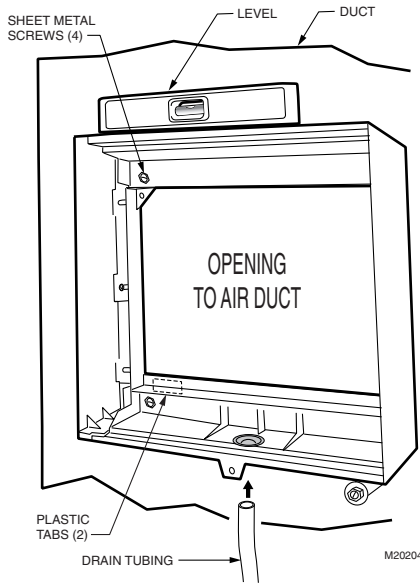

Fig. 4. Installing humidifier on duct.
2. Make sure the humidifier housing is level, then position it in the opening so the plastic tabs are in place on the *lower sheet metal edge* of the opening. Use pliers, as necessary, to flatten cut edges. See Fig. 4.